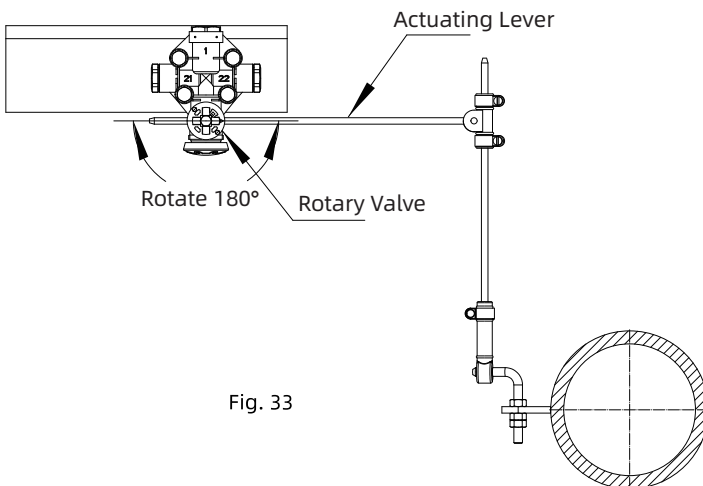

Fig. 33
- (1) Verify all air line connections meet diagram requirements.
- (2) Pressurize the air system, then check all connections for air tightness with soapy water.
- (3) Perform a road test to check for component/air line interference, and confirm all lines are securely fastened.
- (4) Verify suspension installation height FH meets design specifications; adjust the height control valve as needed.
- (5) If lift function operates in reverse: loosen bolts, remove actuating lever, rotate rotary valve 180°, reinstall lever and retighten bolts (see Fig. 33).
- (6) If the air suspension is depressurized long-term, prevent the vehicle frame from directly contacting deflated air springs to avoid folding and structural damage.
- (7) If air springs fail to inflate: